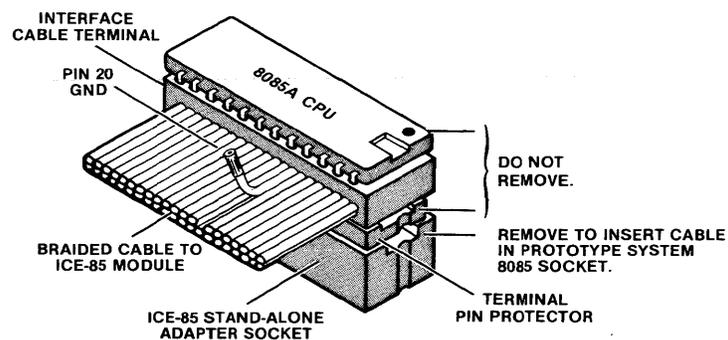

Figure 2-1. ICE-85 Cable Terminal Assembly
- ICE-85 Module and Interface Cable (PN 4001461): A cable assembly containing 8085 logic; the cable terminal is a 40-pin connector with an 8085 CPU chip installed (Figure 2-1). The terminal is inserted in the CPU socket of the user system.
17. Locate the 40-pin terminal at the end of the Interface Cable on the ICE-85 Module (Figure 2-1). The terminal has an 8085 mounted on the top side, and the Stand-alone Adapter Socket mounted on the lower side through a terminal pin protector. If the ICE-85 system is to be used without user prototype hardware, leave the Adapter socket mounted in the terminal.
15. Locate the 40-pin terminal at the end of the Interface Cable on the ICE-85 Module (Figure 2-1). The terminal has an 8085A mounted on the top side, and the Stand-alone Adapter Socket mounted on the lower side through a terminal pin protector. If the ICE-85 system is to be used without user prototype hardware, leave the adapter socket mounted in the terminal.